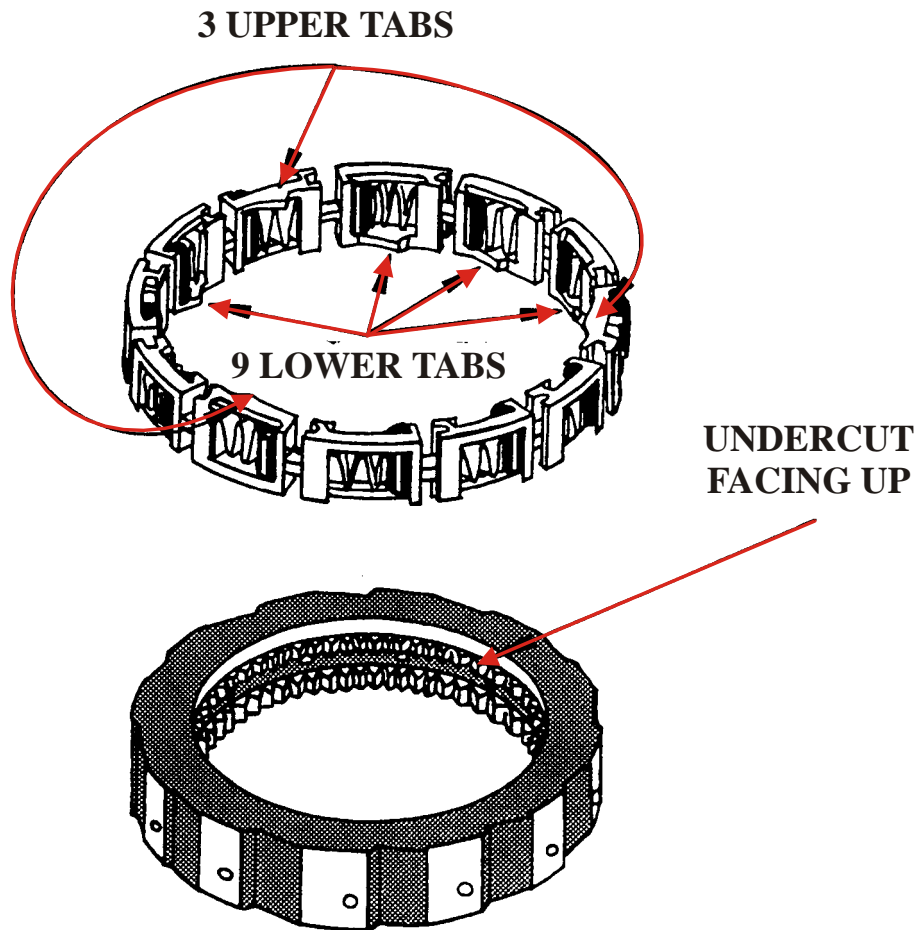

Figure 2
- (1) Place the new inner cam on a flat work surface with the “Undercut” on the inside diameter facing UP, as shown in Figure 2.
- (2) Install the overdrive roller clutch assembly over the inner cam, with the 9 locking tabs on the inner diameter facing down, and the three upper locking tabs on the inner diameter facing up, as shown in Figure 2.